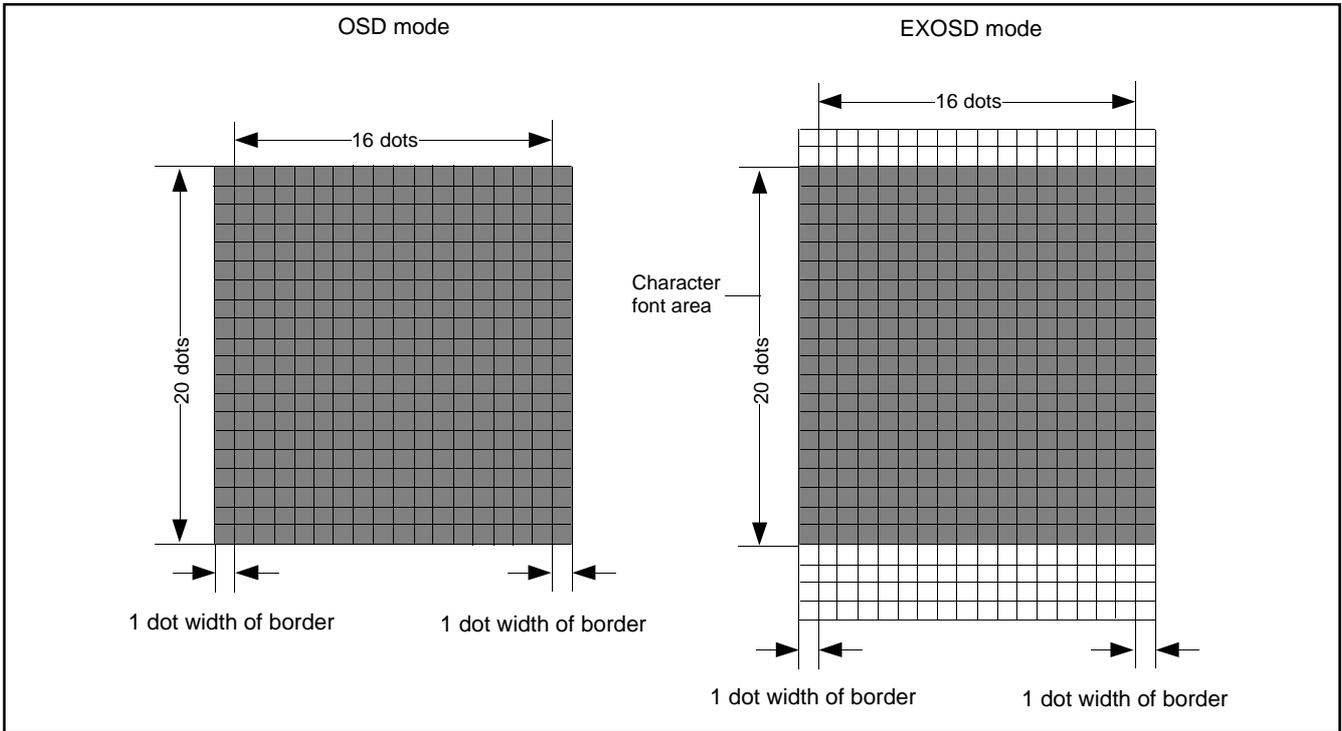

Fig. 75. Border area
**2 :** The border dot area is the shaded area as shown in Figure 75. In the EXOSD mode, top and bottom of character font display area is not bordered.